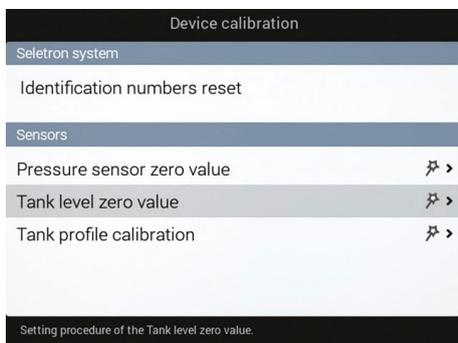

Fig. 145
**1** Select **Tank level zero value** (Fig. 145) and press **[OK]**.